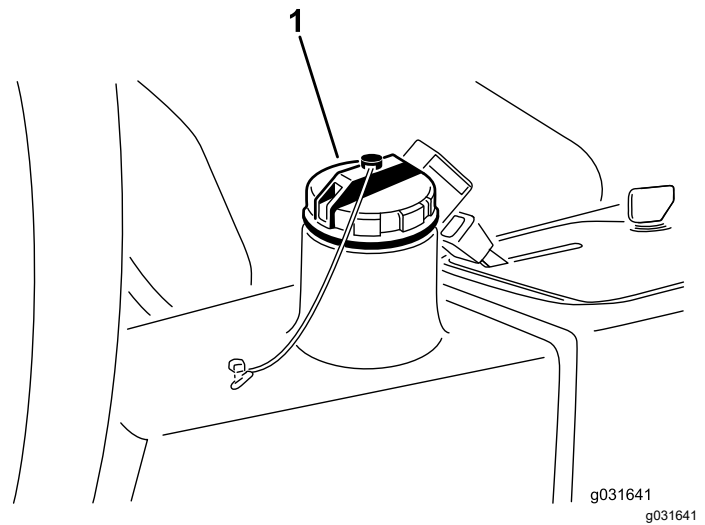

Figure 67
4. Fill the reservoir (Figure 67) with approximately 13.2 L (3.5 US gallons) of hydraulic fluid; refer to Checking the Hydraulic System \(page 53\).